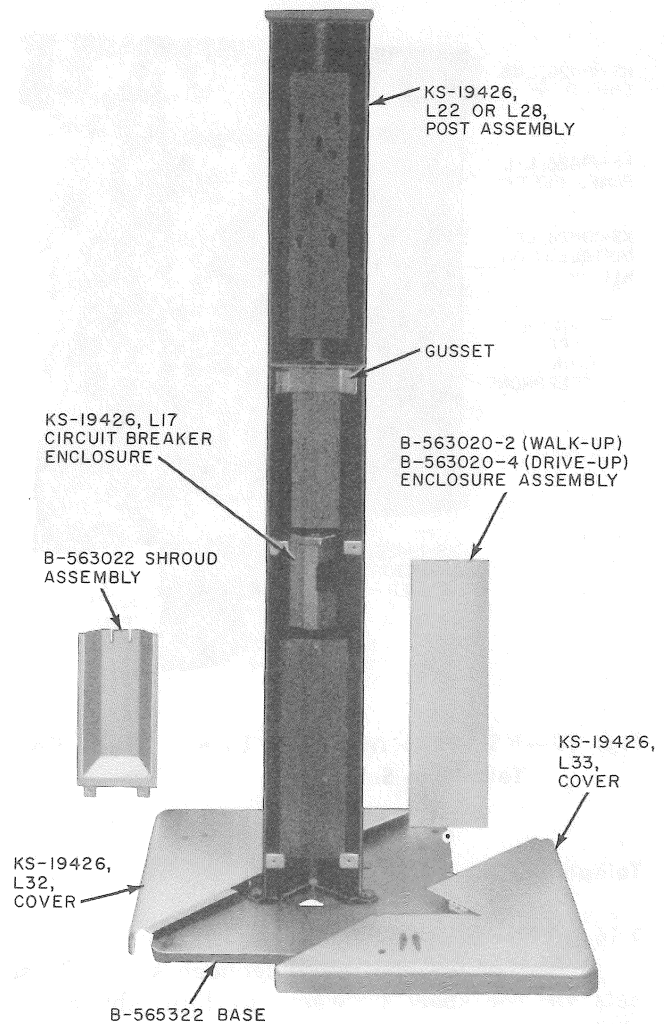

Fig. 9—Typical Pedestal Kit
2.13 A black angular steel post, with an aluminum cover on the flat front face, is available for walk-up or drive-up service (Fig. 9).